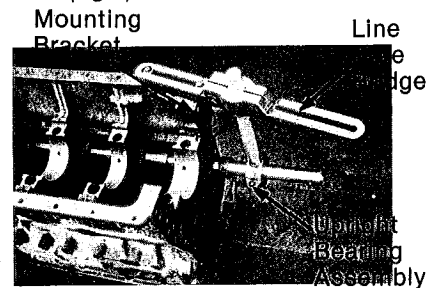

Fig 4 Set-up for boring of #1 cam bearing bore
4. To cut the number one camshaft bore of the block, the Mounting Bracket, Line Bore Bridge, and Upright Bearing Assembly are needed for additional support. These parts position and support the Line Bore Bar on the outside of the camshaft bore (fig 4).